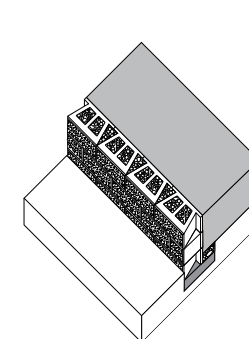

Figure 4
9. Now backfill behind the gravel using either sand or the existing site's soil, so long as it does not have a high clay-content. Always backfill each completed course before proceeding to the next one. Weed mat or shade cloth is advisable at back of wall to retard staining. (see figure 4)
11. With each course of Stone Max blocks, you need to make sure the vertical joints never align with the previous course. (This would weaken the integrity of the construction.) So lay your next course offset half a block from the end to form a stretcher bond pattern. (see figure 4)